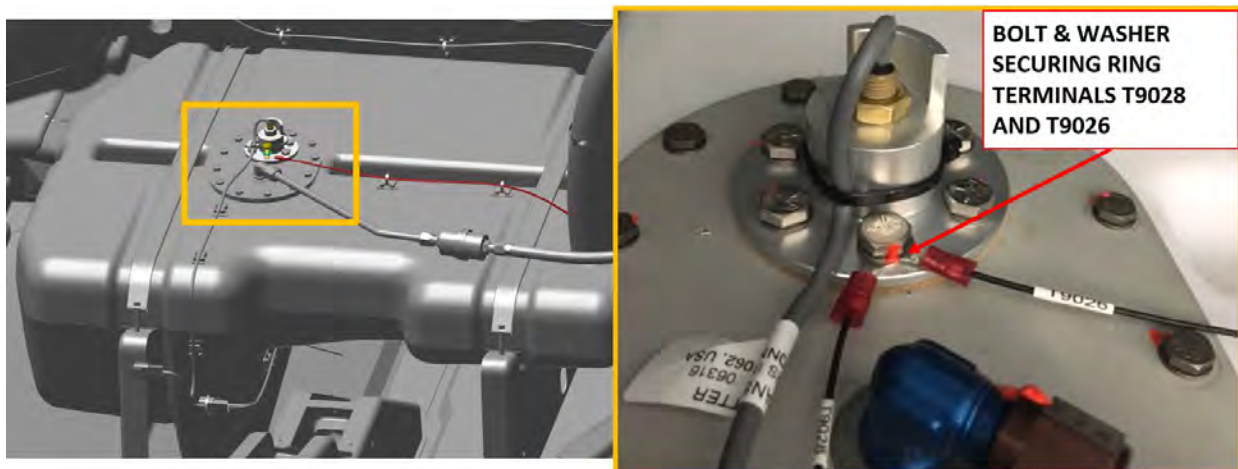

FIGURE 14-89
5. Remove electrical connections from Fuel Level Sensor. See Figure 14-89.
3. Secure the electrical connections to the Fuel Level Sensor Plate, Figure 14-89: